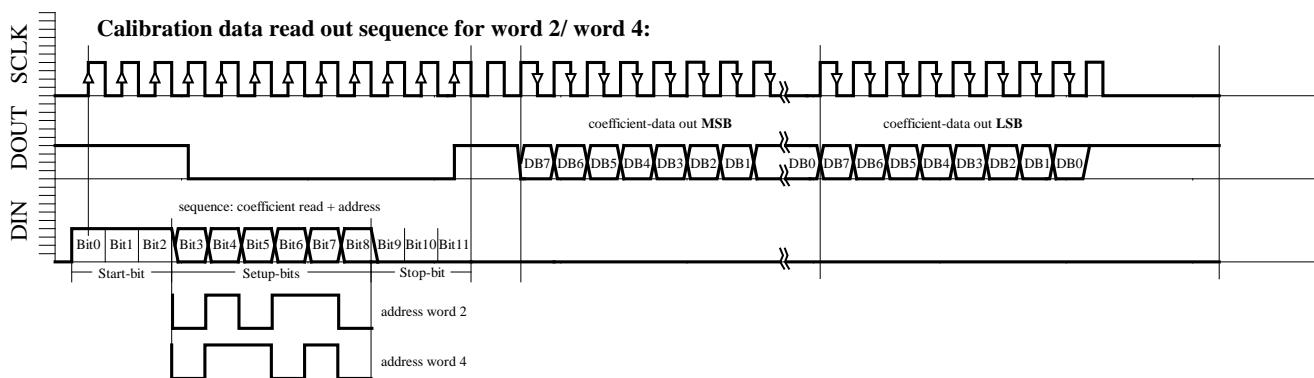

Fig. 6d: W2, W4 READING sequence
- Calibration data read-out sequence for Word2 (Figure 6d)